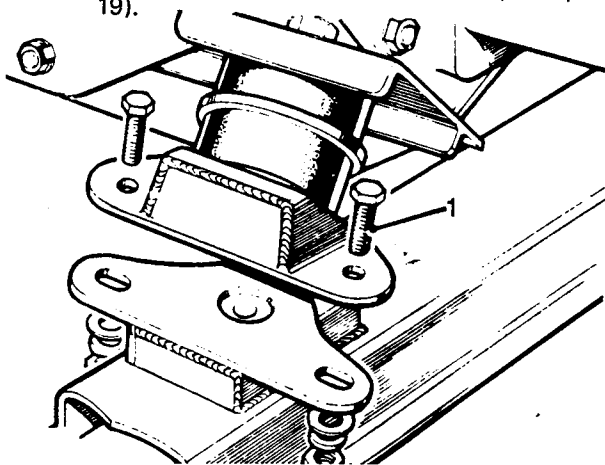

Fig H1.6
- (11) Refer to Fig H1.6. Remove the fixings (1) from the two rear mountings for the gearbox.